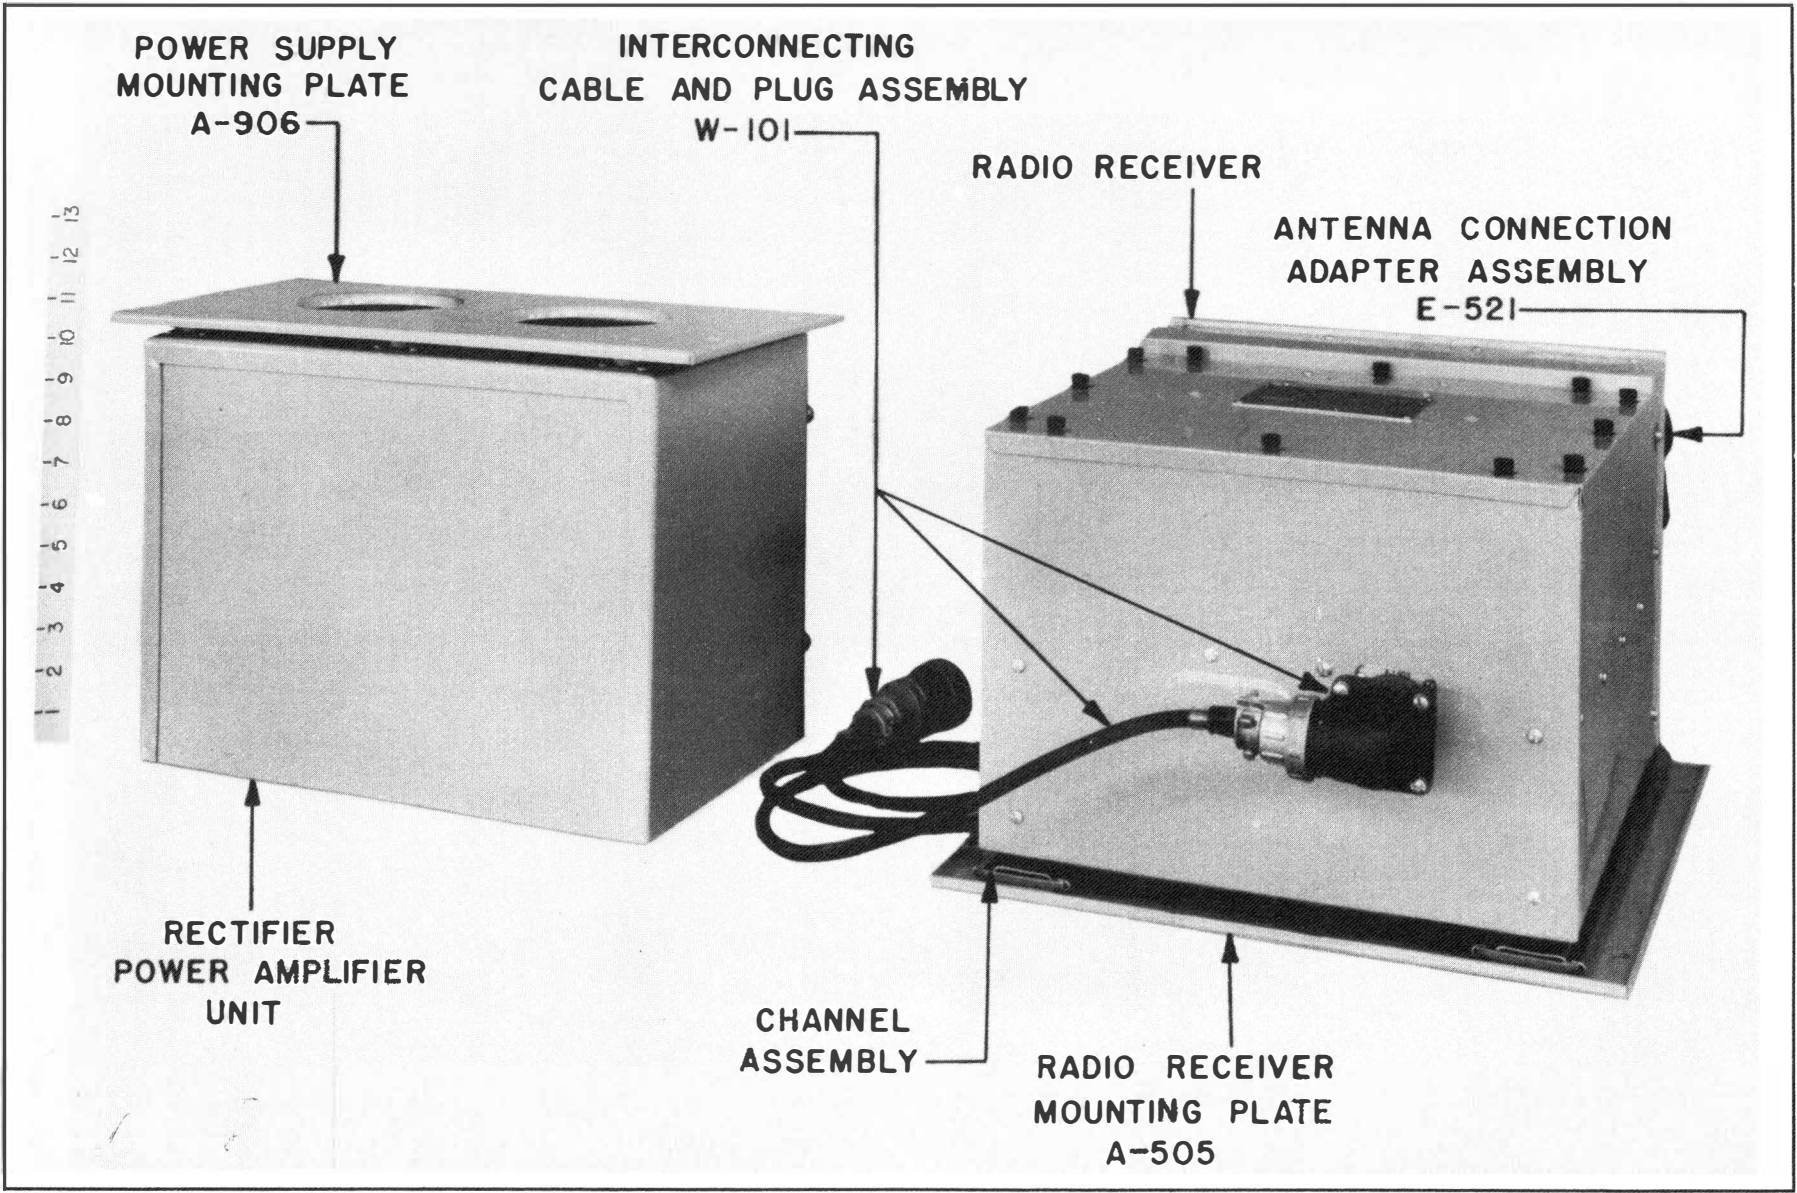

Figure 3-2. Radio Receiving Equipment Navy Model RBS-3, Right Rear View
(2) Place the receiver in position on the table (or shelf) and bolt the mounting plate to the table top, using 3/8 bolts of suitable length.
(3) Connect right angle plug J-504 of the interconnecting cable and plug assembly W-101 to receptacle P-504 located on the back of the receiver. (See Figure 3-2).